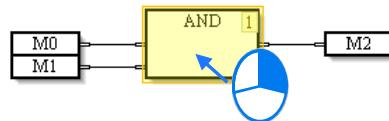

Figure 12-38 Right-clicking an object
- (1) The users have to right-click an object, as shown in figure 12-38.